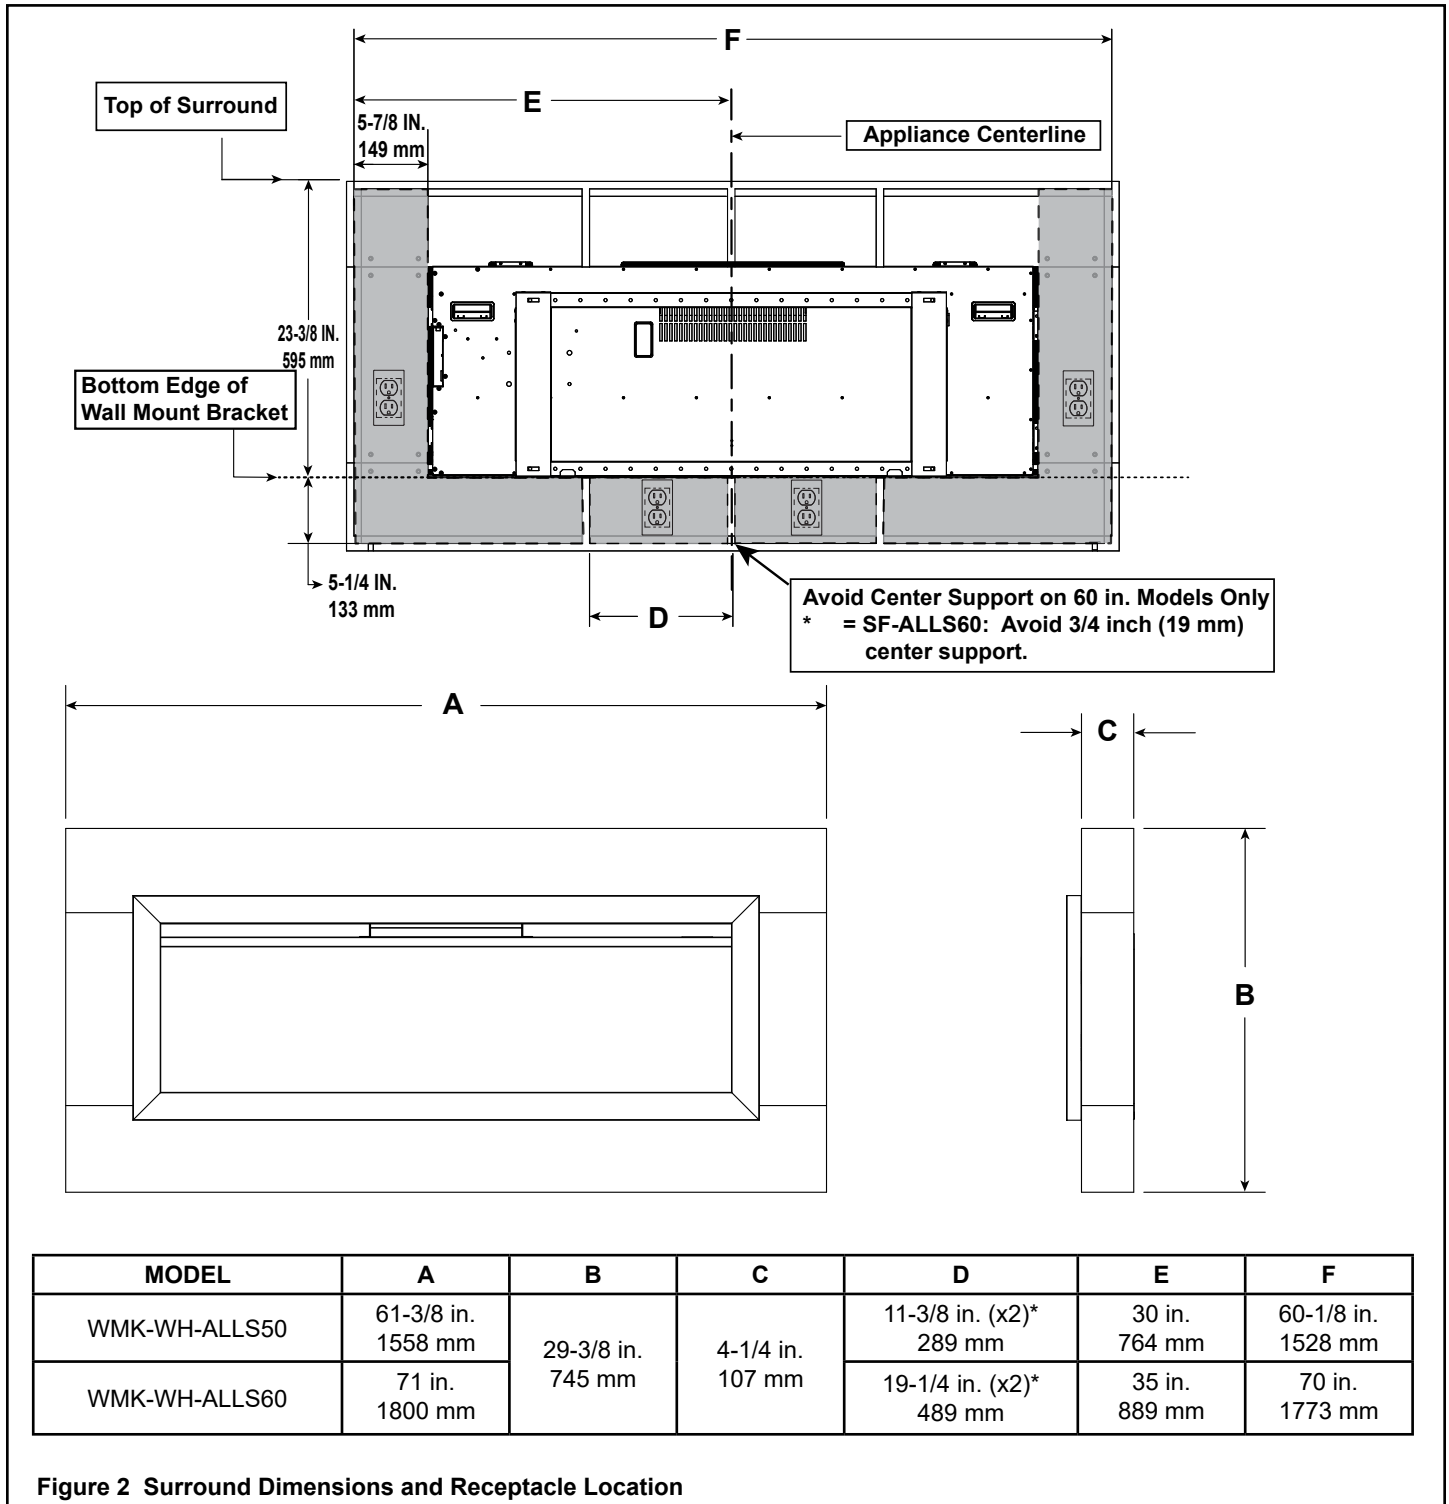

Figure 2 Surround Dimensions and Receptacle Location
The surround is able to conceal a wall receptacle. Refer to Figure 2 to assist in locating a concealed receptacle behind the surround.
- A wall receptacle can be concealed by the surround if located in the shaded areas shown in Figure 2. It is important to note that section clearances (dimension D in Figure 2) vary between fireplace sizes. SF-ALLS50 will have a middle area of 22-3/4 in. (578 mm) while the SF-ALLS60 has a separation in the middle which leaves each side with approximately 19-1/4 in. (489 mm.).